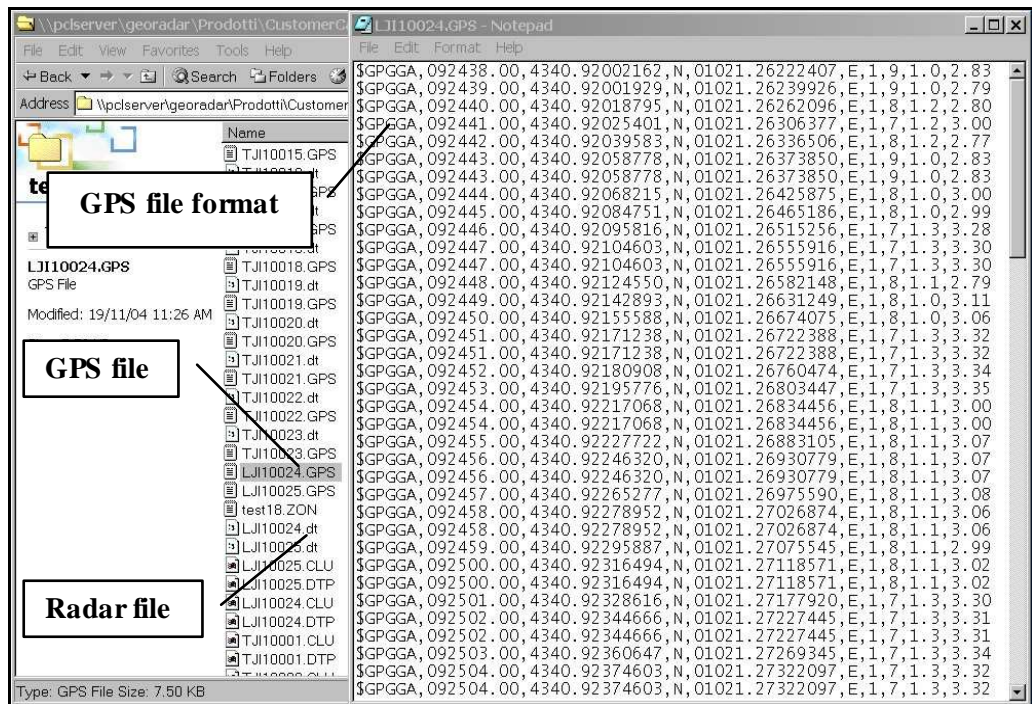

Fig. C. 7 - Example of a GPS file
Step 6 The GPS data in NMEA\$GGA format are saved as an ASCII file in the same directory as the radar data; the GPS files have the same numbering as the radar files, but have a *.GPS extension (see the example shown in the picture Fig. C. 7). During the radar data acquisition phase, you can check the GPS acquisition data using white Markers placed at the bottom of the radar map.